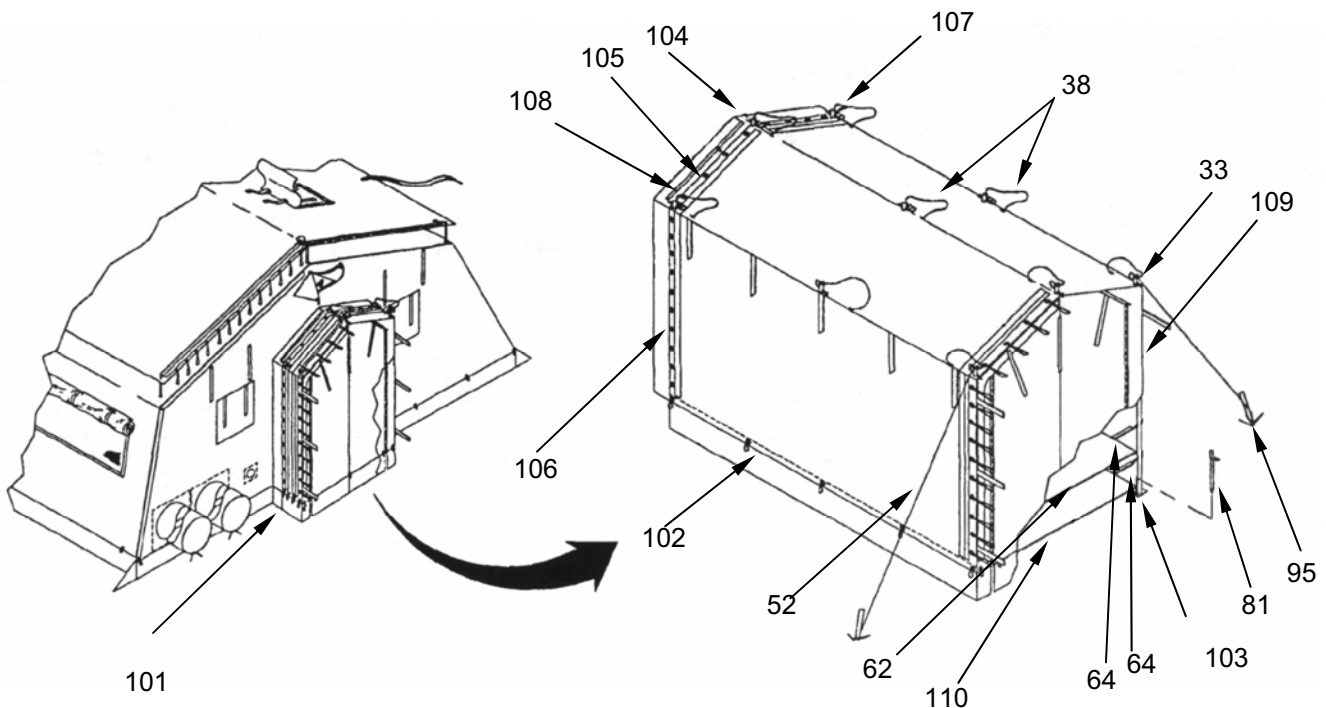

Figure 40. Install the Vestibule.
1. Unroll vestibule adapter (**Figure 40, Item 101**) tent door.
2. Identify and lay out guy lines (**Figure 40, Item 52**).
3. Identify and lay out vestibule fabric (**Figure 40, Item 102**).
4. Identify, lay out and assemble vestibule frame sections (**Figure 40, Item 103**) inside of TEMPER tent.
5. Identify ridge spindle grommets (**Figure 40, Item 104**) at one end of vestibule (**Figure 40, Item 102**) and vestibule adapter (**Figure 40, Item 101**).
6. Align vestibule spindle grommets (**Figure 40, Item 105**) with vestibule adapter spindle grommet (**Figure 40, Item 106**).
7. Insert vestibule frame spindles (**Figure 40, Item 107**) in vestibule adapter and vestibule spindle grommets (**Figure 40, Items 105,106**).
8. Secure ridge grommets (**Figure 40, Item 104**) with hitch clip pins (**Figure 40, Item 38**).
9. Becket lace the vestibule fabric (**Figure 40, Item 102**) to the adapter (**Figure 40, Item 101**) starting at the ridge and working towards each eave.
11. Cover with weather seal flaps (**Figure 40, Item 108**).
12. Install remaining hitch clip pins (**Figure 40, Item 38**).
14. Carefully bring one completed vestibule frame (**Figure 40, Item 103**) underneath vestibule (**Figure 40, Item 101**).
15. Place completed vestibule frame spindles (**Figure 40, Item 107**) through three grommets (**Figure 40, Item 105**) at center of vestibule.
16. Place hitch clip pins (**Figure 40, Item 38**) through spindles.
17. Carefully bring one completed vestibule frame (**Figure 40, Item 103**) underneath vestibule (**Figure 40, Item 101**).
18. Place completed vestibule frame spindles (**Figure 40, Item 107**) through three grommets (**Figure 40, Item 105**) at end of vestibule.
19. Install vestibule door (**Figure 40, Item 109**) and secure ridge hitch clip pins (**Figure 40, Item 38**).
20. Becket lace from ridge to eave, seal weather flap (**Figure 40, Item 108**) install remaining hitch clips pins (**Figure 40, Item 38**) and complete becket lacing.
21. Extend frames (**Figure 40, Item 103**) and fabric (**Figure 40, Item 102**).
22. Install two guy lines (**Figure 40, Item 52**) under hitch clip pins (**Figure 40, Item 38**) on eave spindles (**Figure 40, Item 33**) of last vestibule frame.
23. Place 24-in. wooden stakes (**Figure 40, Item 95**) about 6 feet out, facing towards vestibule door.
24. Tie guy lines (**Figure 40, Item 52**) to stakes (**Figure 40, Item 95**) and tighten.
25. Secure vestibule fabric (**Figure 40, Item 102**) to vestibule frame (**Figure 40, Item 103**) with tie tapes.
26. Install a 12-in steel pin (**Figure 40, Item 81**) in base plates of end vestibule frame (**Figure 40, Item 103**).
27. Identify and install single ply floor (**Figure 40, Item 110**) and secure with tie tapes (**Figure 40, Item 64**) to vestibule frame (**Figure 40, Item 102**).
28. Install insulated floor (**Figure 40, Item 62**) on top of single ply floor (**Figure 40, Item 110**).
29. Secure with tie tapes (**Figure 40, Item 64**).